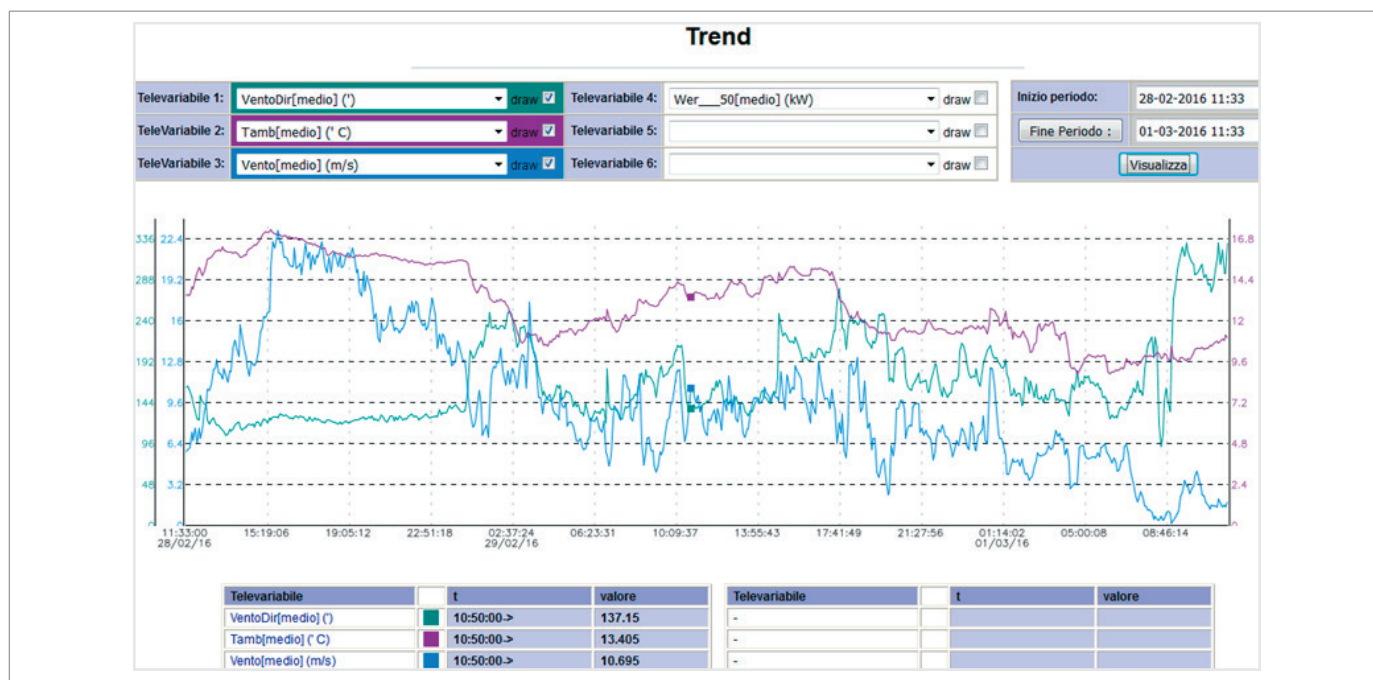

Fig. 5.16. Trend display example
By pressing the “View” button (A) the relevant trends are shown (Fig. 5.16).